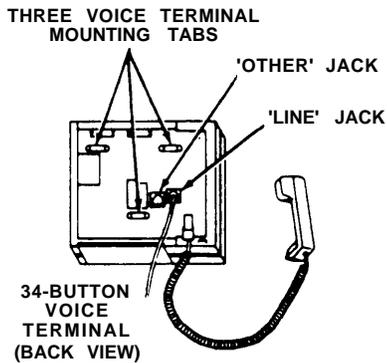

Figure 9
- Position the back (or bottom) of the voice terminal so the three terminal mounting tabs (Figure 9) fit into the terminal mounting slots.